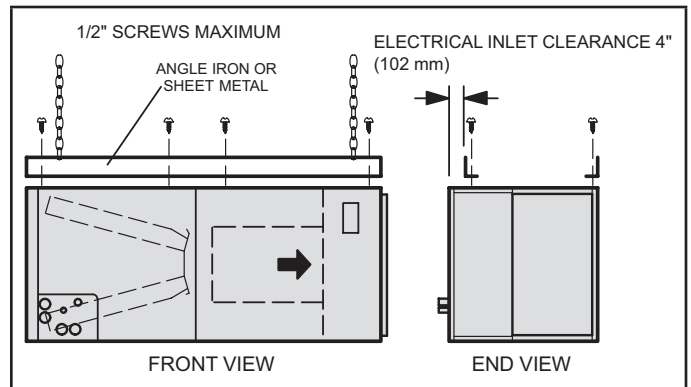

FIGURE 3. Suspending Horizontal Unit
- 2 - If the unit is suspended, the entire length of the cabinet must be supported. If you use a chain or strap, use a piece of angle iron or sheet metal attached to the unit (either above or below) to support the length of the cabinet. Use securing screws no longer than 1/2" to avoid damaging the coil or filter as illustrated in figure 3. Use sheet metal screws to connect the return and supply air plenums as required.
12 - If suspending the unit, it must be supported along the entire length of the cabinet. If using chain or strap, use a piece of angle iron or sheet metal attached to the unit (either above or below) so that the full length of the cabinet is supported. Use securing screws no longer than 1/2" to avoid damage to coil or filter, as illustrated in figure 3 on page 6. Connect return and supply air plenums as required using sheet metal screws.